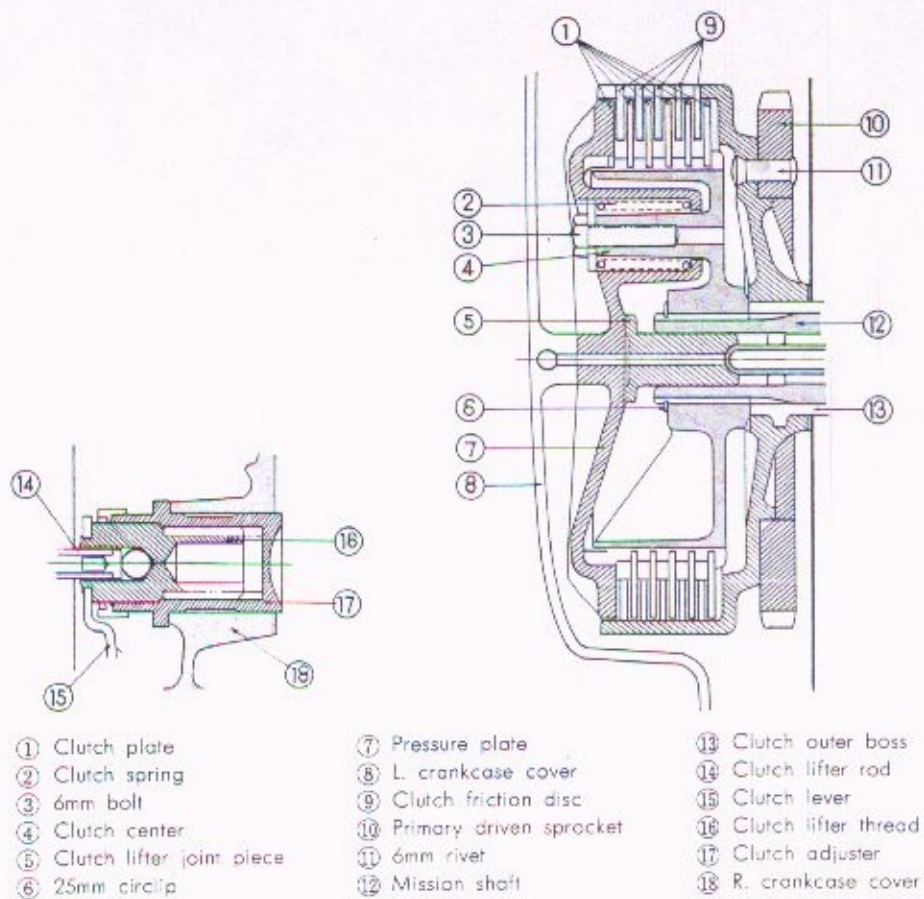

Fig. 3-2. Cross section of clutch for Model C72
As shown in Fig. 3-1 (disassembled figure) and Fig. 3-2 (cross sectional figure), there is clutch outer complete when crankcase cover is taken out. In the clutch outer complete, clutch sprig (10) is set by 4 of  $6 \times 24$  hexagonal bolts pressing clutch pressure plate (9) and sandwiching clutch friction disc (6) by clutch plate (7). Inside of the clutch plate teeth are cut which mesh with that of outer part of clutch center (8), and the clutch center is connected with the transmission mainshaft by spline and rotates with (7), (8) and (9) as a whole with the transmission mainshaft.